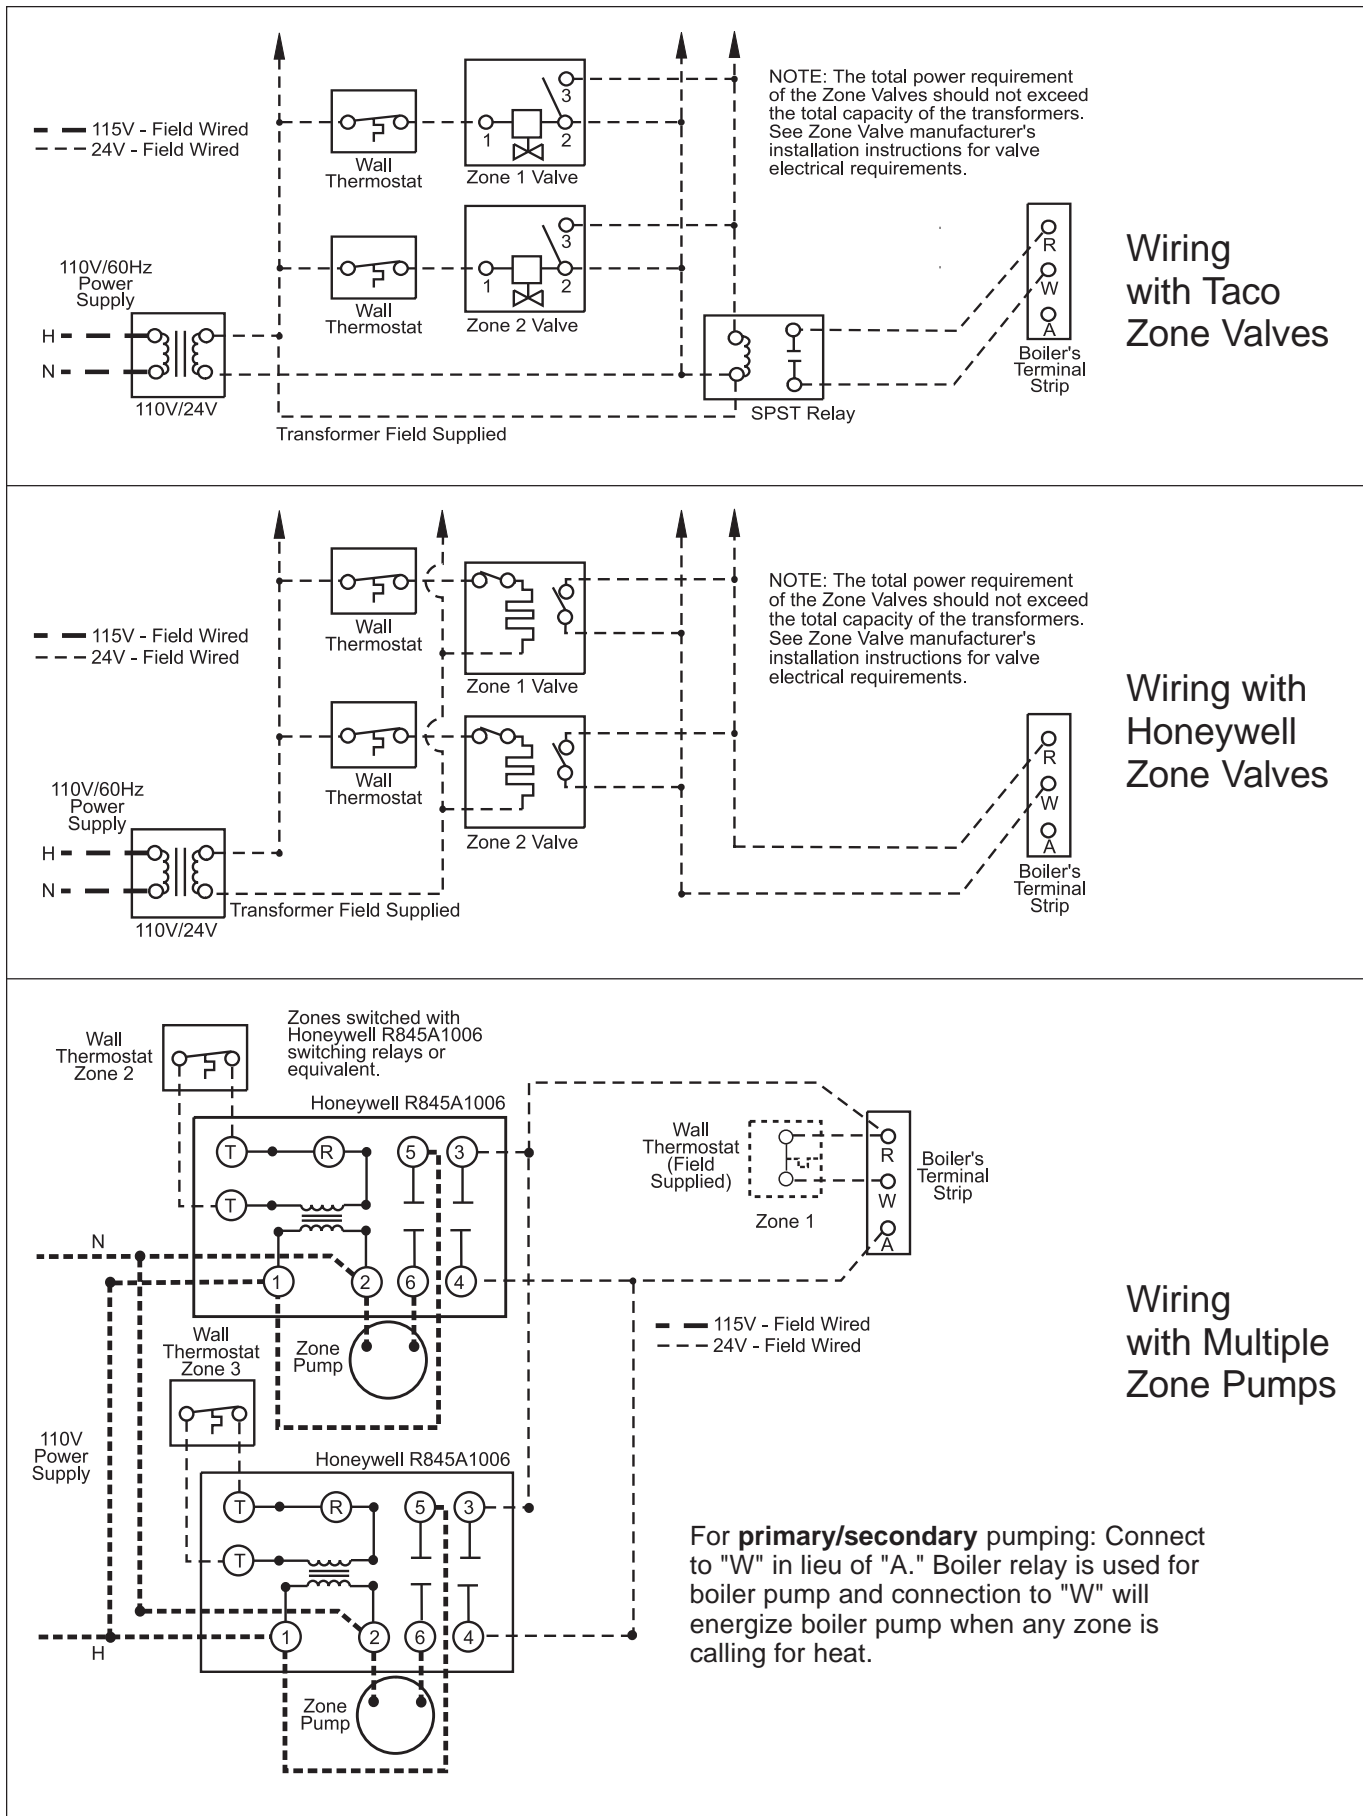

Figure 10. Multiple Zone Wiring.
3. Follow the schematics in Figures 10 & 11. Remove the wire nut from the two black wires, and connect the hot lead from the 115V power supply, and the neutral lead to the white wires and the neutral side of the pump. The brown wire attaches to the hot side of the pump.